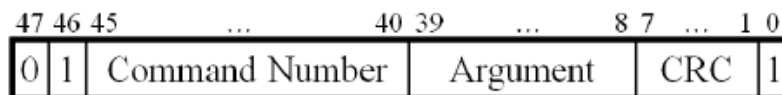

Figure 5 Format of the 48-bit command for an SD card.
Communication with the SD card is performed by sending commands to it and receiving responses from it. A valid SD card command consists of 48 bits as shown in Fig.5. The leftmost two bits are the start bits which we set to (01). They are followed by a 6-bit **command number** and a 32-bit argument where additional information may be provided. Next, there are 7 bits containing a Cyclic Redundancy Check (CRC) code, followed by a single stop bit (1).